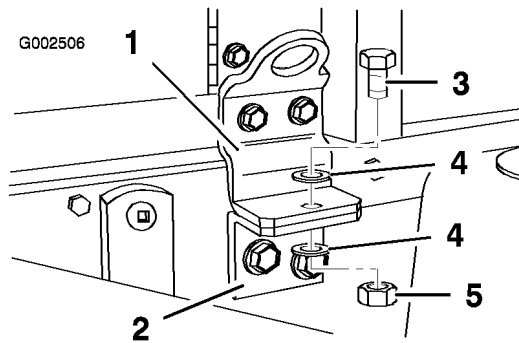

Figure 21
10. Secure the tank skid assembly to the frame with a bolt (1/2 x 1-1/2 inches), two washers (1/2 inch), and a locknut (1/2 inch) as shown in Figure 21.